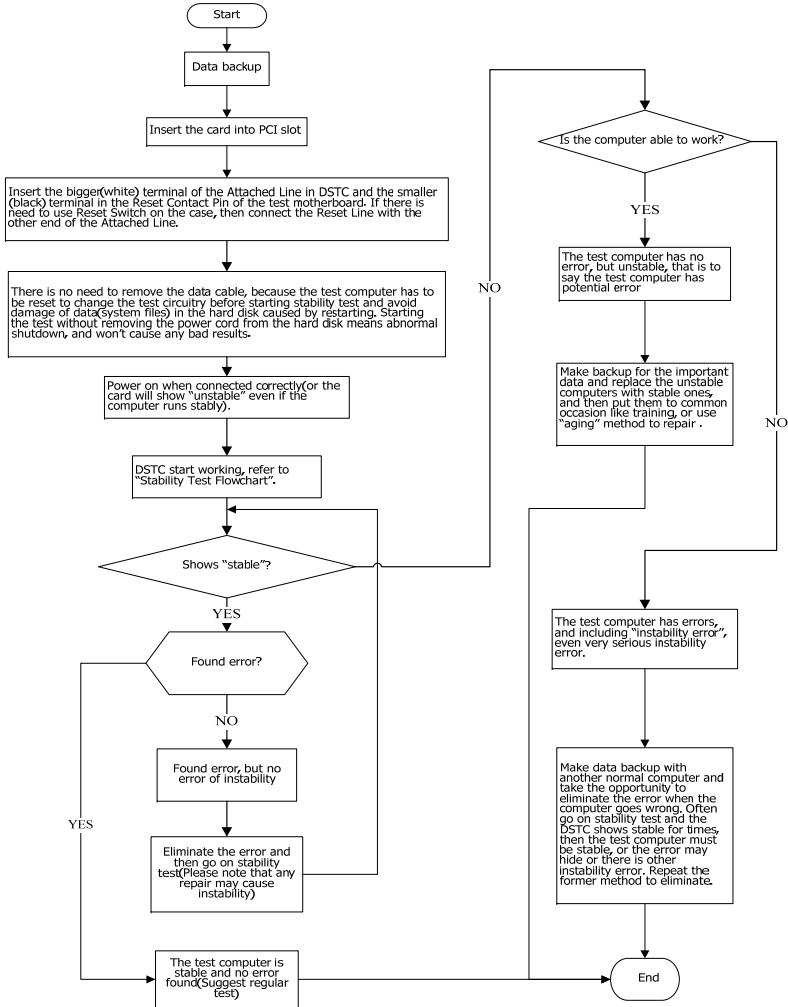

Figure 2 Instability Analysis
2. error of instability	Refer to figure 2
2. Only error of instability	Refer to Figure 2
3. Including errors of instability and other errors	Eliminate the errors according to POST codes and Figure 2